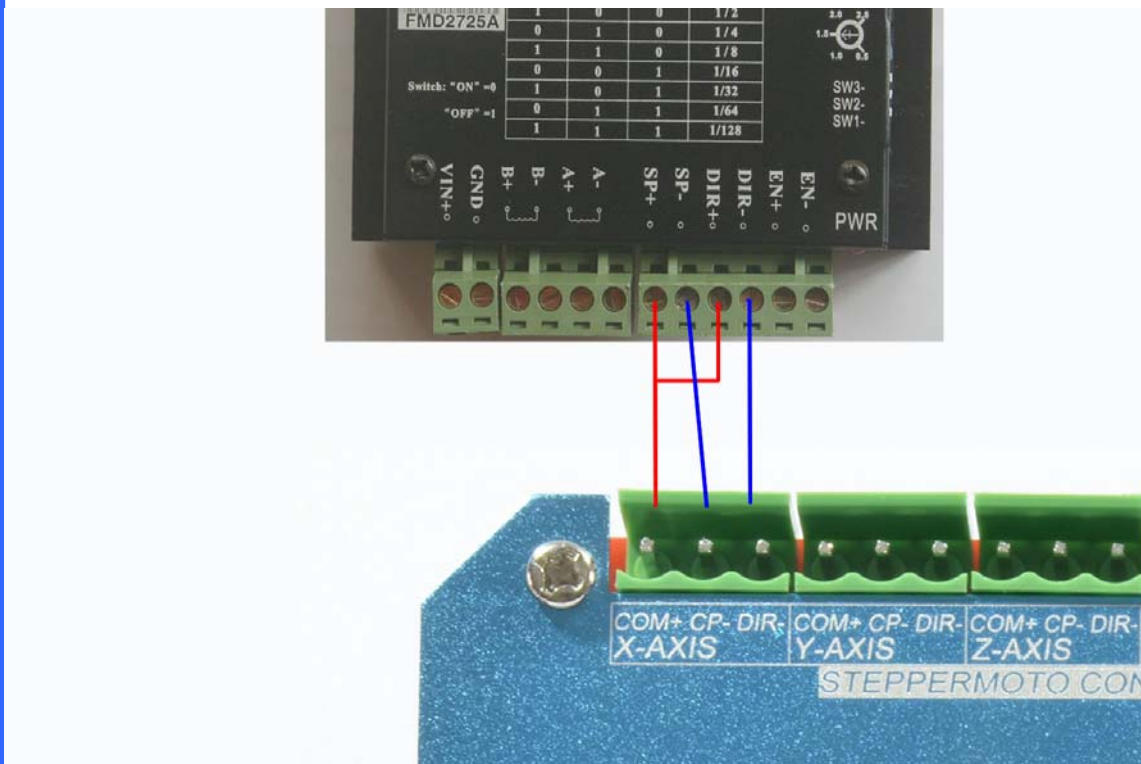

Figure2-2. Stepper motor driver connection
- B) 6-axis stepper motor control signal output, axes are defined as X\Y\Z\A\B\C from left to right. Each axis is defined as COM+\CP-\DIR-. They are positive common, negative pulse, negative direction. This card is common positive connection, so CK+ and DIR+ of Stepper driver should be connected to COM+. This board does not support the common negative connection. See as Figure2-2. This card doesn't have EN signal, Most drives on sale should not connected to the EN signal.